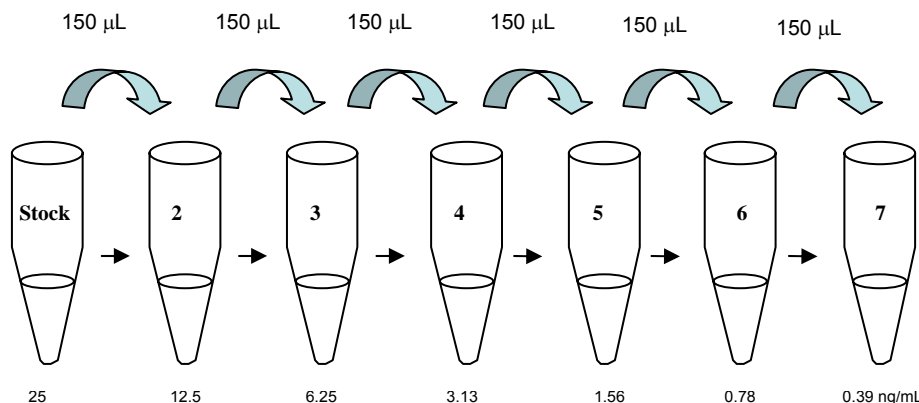

Figure 1: Recommended 2-fold Serial Dilution of Standard
- c) Standards #3-7 are then prepared by performing a 2-fold serial dilution of the preceding standard. Refer to Fig. 1. For example, to make Standard #3, remove 150 μL of Standard #2 and add it to tube #3 and vortex and so on. Do not add any Standard to the "0 Dose" Standard tube.